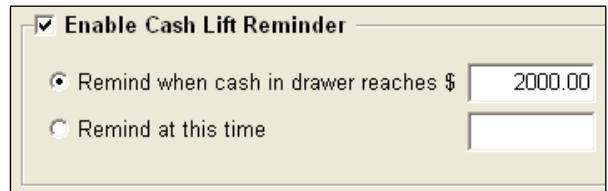

Figure 106
- **Remind when cash in drawer reaches** – This will prompt you to perform a cash lift when the money in the till reaches the specified amount (see Figure 106).